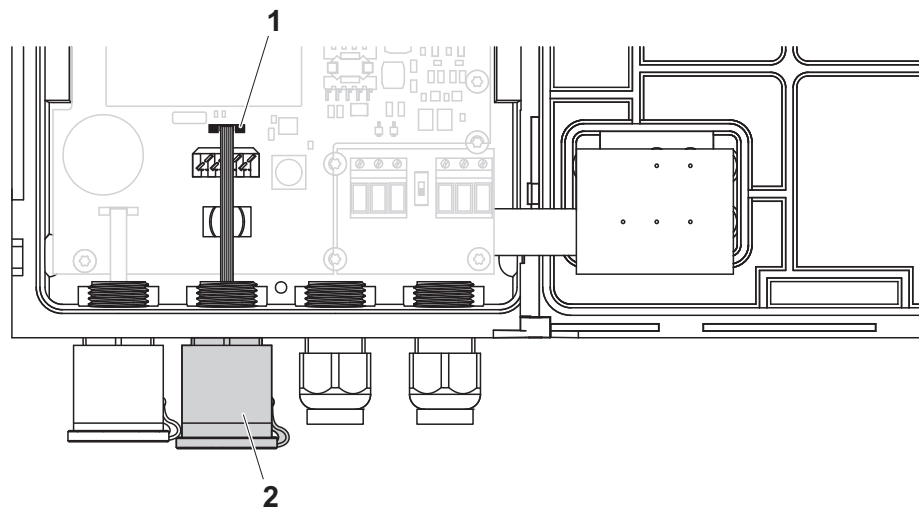

Fig. 2-3 Ethernet connection with RJ45 socket
2	Disconnect the flat flexible cable (pos. 1 in Fig. 2-3) from the main PCB.
3	Unscrew the RJ45 socket enclosure (pos. 2 in Fig. 2-3).